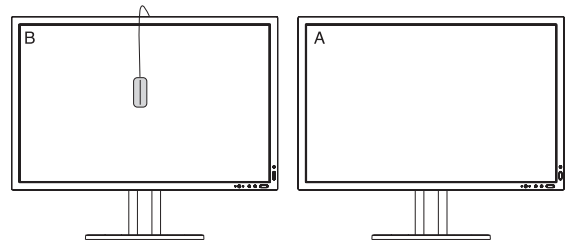

Figure C.2
7. When you want to confirm the white point of Display B, remove USB color sensor from source Display A and place in the center of Display B (**Figure C.2**). To skip the white point confirmation, Display B, press “SELECT” to step 9 for FINE TUNING.